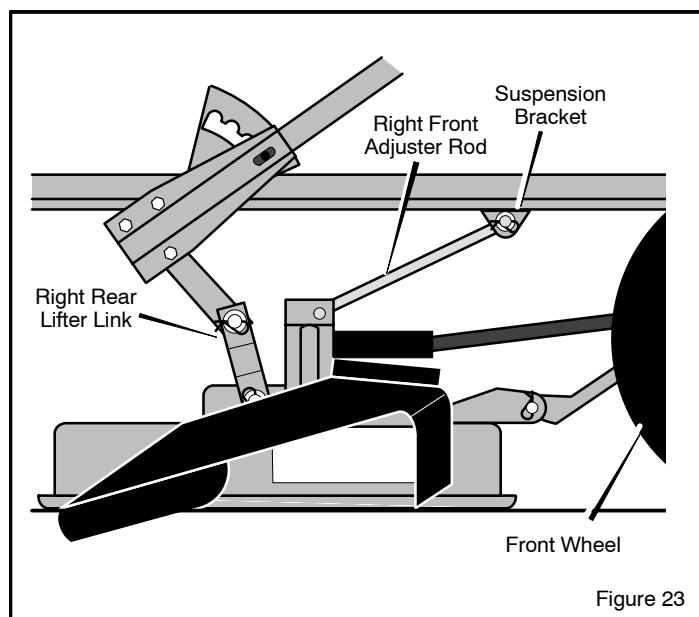

Figure 23
6. Remove the pin and washer that secure the **right rear lifter link**. Remove the **right rear lifter link** from mower housing. (Figure 23)
7. Remove the pin and washer that secure the **right front adjuster rod**. Remove the **right front adjuster rod** from the **suspension bracket**. (Figure 23)